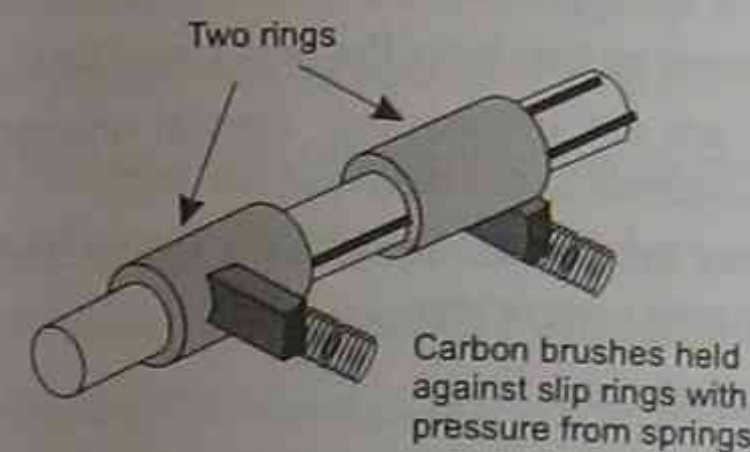

Figure 2.44 Slip rings
- 3 in some AC motors *slip rings* (Figure 2.44) that conduct electricity to and from the motor.
These differ from an induction motor in that while the stator still produces a rotating magnetic field, the rotor is fed current directly from an external supply via 'slip rings' (see Figure 2.44).